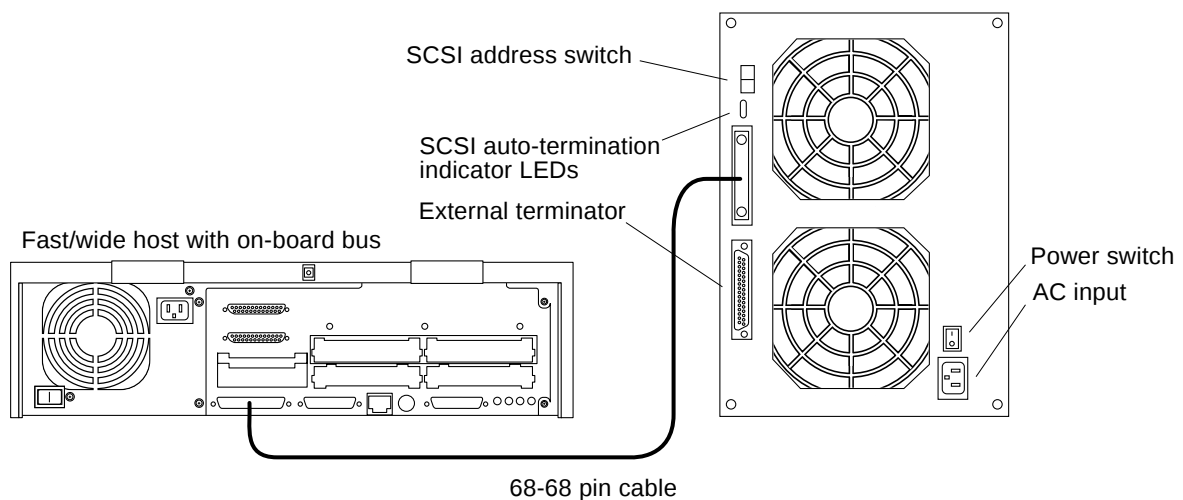

FIGURE B-3 Fast/wide Host in a Direct Connection with a SPARCstorage MultiPack 2
1. **Connect one end of the SCSI cables to the SCSI port on the back of the storage enclosure (FIGURE B-3).**